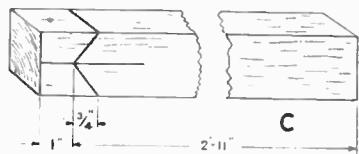

Fig. 3—Front section end shape
The same lengths are used for the rear section and the intermediate roof supports, ten pieces in all, the centre pair being made of 3ins. by 2ins. It is advisable to cut all these pieces at this stage, making the length and angles exactly the same. This will ensure a good straight roof. The piece (C) for the front section is shown as 3ft. In the cutting list. Mark out and cut as shown in Fig. 3.